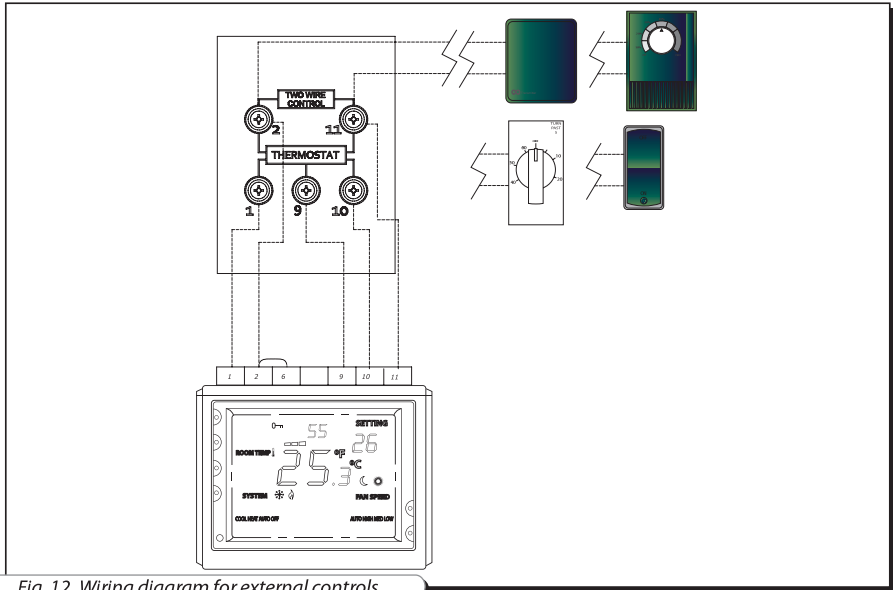

Fig. 12. Wiring diagram for external controls
Connect all the above external controls in compliance with the wiring diagram in fig. 12. The terminals (2) and (11) are designed for connection up to five control devices.